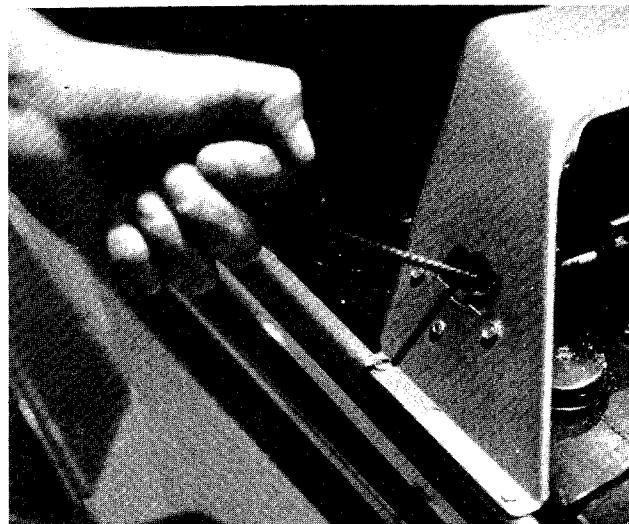

FIGURE 6. RECOIL STARTER
7. Turn the ignition key to the ON position. Twist the recoil starter handle until it is free and pull it with a quick steady motion. After the engine starts, return the recoil starter handle. Twist it until it locks. See figure 6.